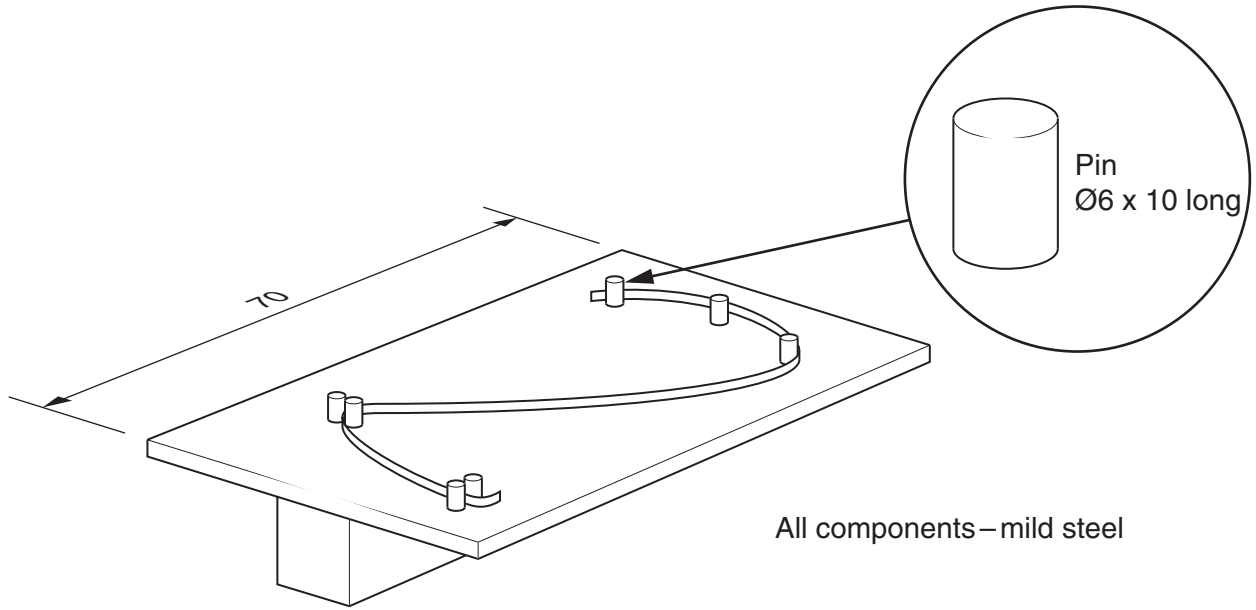

**Fig. 3**
(b) Fig. 3 shows an incomplete net of the scoop.
- (ii) Complete the net in Fig. 3 by adding tabs to allow the shape to be riveted together. [1]